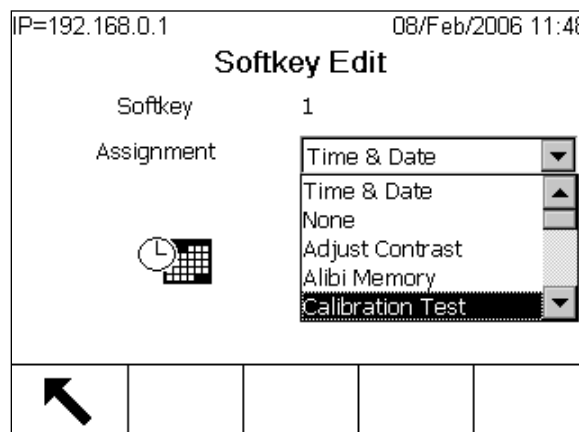

Figure E-4: Soffkey Edit Screen
|  | Edit | Opens the Softkey Edit screen shown in Figure E-4, allowing editing of selected softkey's assignment |
2. Press the EDIT soffkey . The Soffkey Edit screen (Figure E-4) displays. The soffkey position number selected for editing is shown on the screen along with the current assignment.